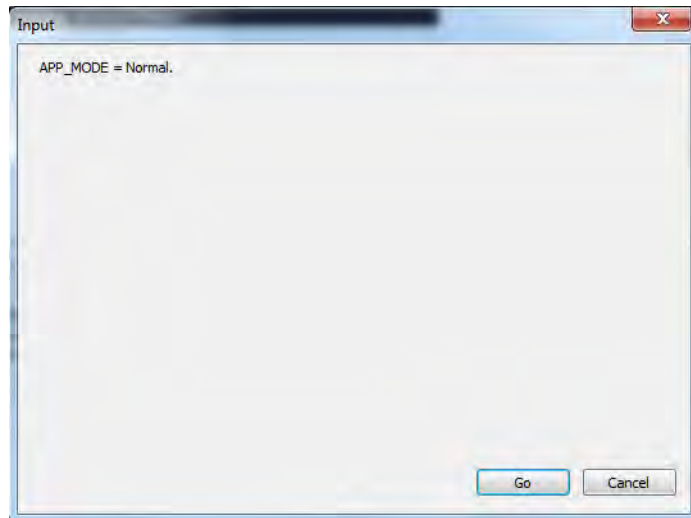

Figure 107 Mode Changed
3. Select **Normal** in the pulldown, click **GO** and Figure 107 appears.